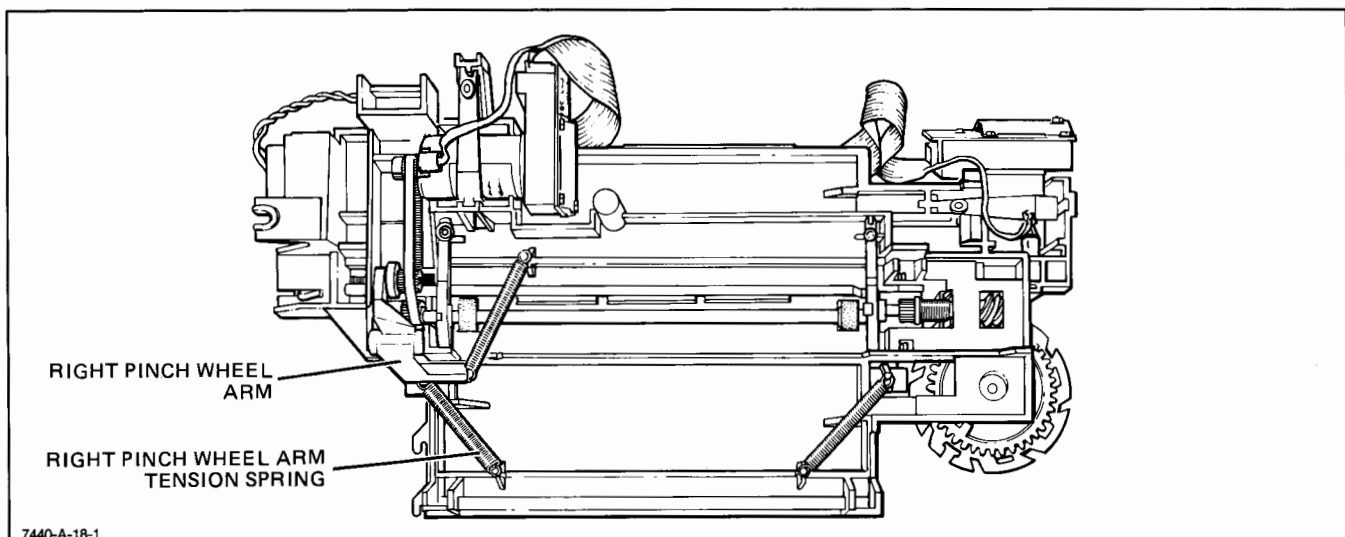

Figure 6-11. Right Pinch Wheel Arm Removal
- e. Remove the right pinch wheel arm tension spring. See Figure 6-11.
- l. Remove the right pinch wheel arm tension spring. See Figure 6-11.